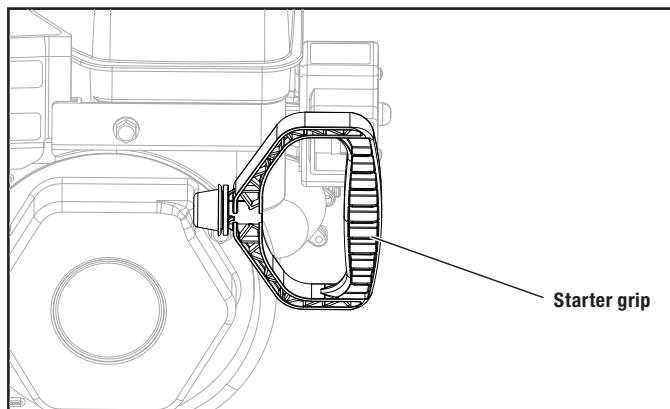

Figure 13C
6. Stand back and to the right of the unit, pull the starter grip lightly until you feel resistance then pull briskly. Return the starter grip gently (Fig. 13C).